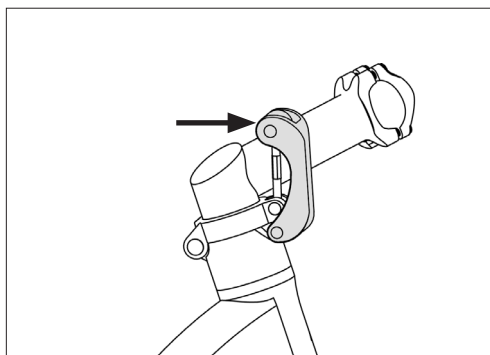
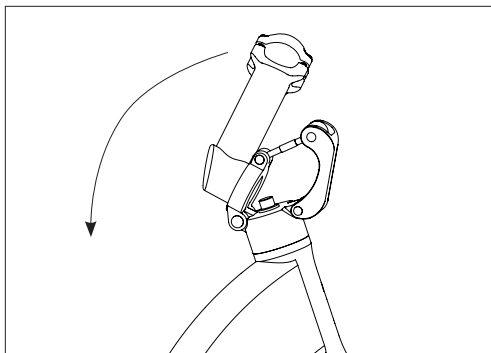
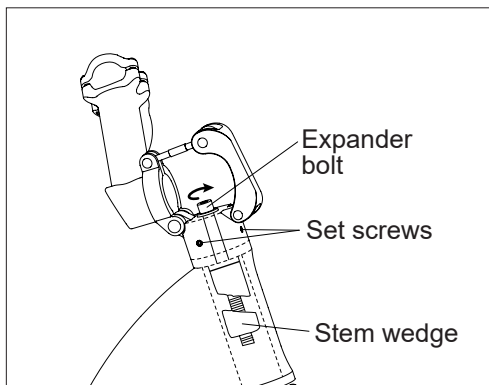

Fig. 11: Open the handlebar stem quick release.
Fig. 12: Fold down the stem.
Fig. 13: Stem mounting parts.
1. Open the stem quick release (Fig. 11), and begin to fold the stem down (Fig. 12). This will provide access to the expander bolt (Fig. 13).
2. Decrease the tightness of the expander bolt by two or three turns by rotating it counter-clockwise (Fig 13).
4. Decrease the tightness of all (4) set screws by two or three turns (Fig 13).